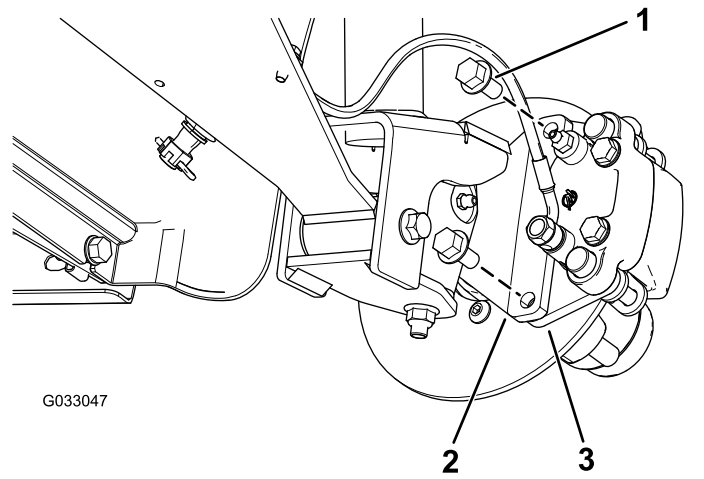
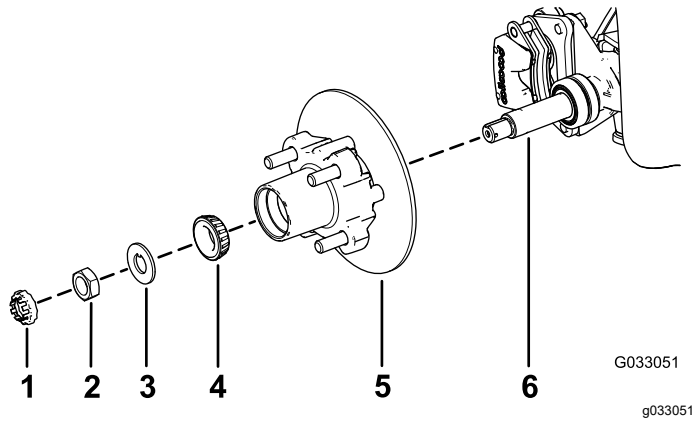

Figure 27
Figure 31
3. Remove the flange-head bolts (3/8 x 3/4 inch) that secure the bracket for the brake assembly to the spindle and separate the brake from the spindle (Figure 27).
1. Apply a light coat of the specified grease to the spindle (Figure 31).
2. Assemble the hub and rotor onto the spindle with the rotor inboard (Figure 31).
3. Assemble the outboard bearing onto the spindle and seat the bearing to the outboard race (Figure 31).
4. Assemble the tab washer onto the spindle (Figure 31).
5. Thread the spindle nut onto the spindle and tighten the nut to 15 N·m (11 ft-lb), while rotating the hub to seat the bearing (Figure 31).
2. Align the brake pads to either side of the rotor (Figure 27) and the holes in the caliper bracket with the holes in the brake mount of the spindle frame (Figure 31).
3. Secure the caliper bracket to the spindle frame (Figure 27) using the 2 flange-head bolts (3/8 x 3/4 inch).